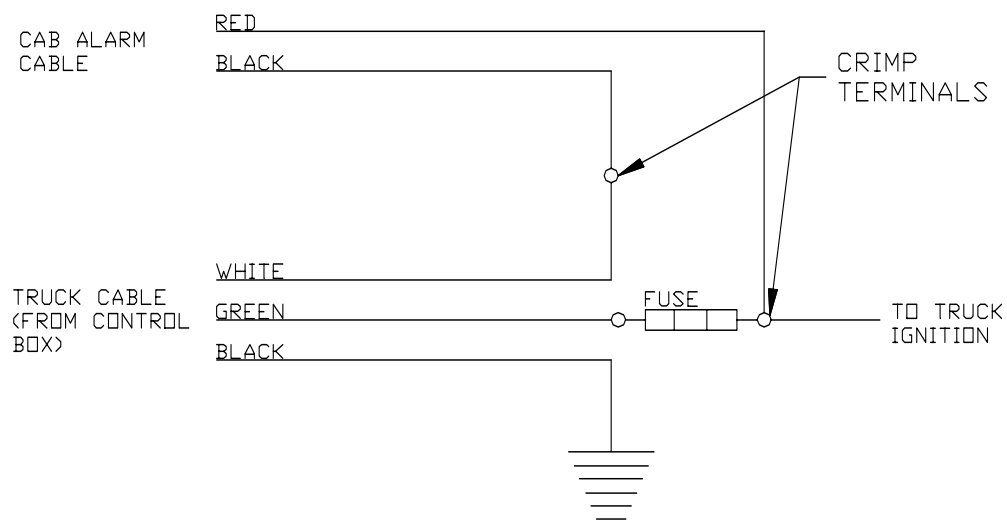

**Figure 15 – Power Cable and Cab Alarm Wiring**
3. Wire the power cable to the truck (see Figure 15). The fused power (green) wire should be wired to a switched 12V source. This ensures that power to the control box is on only when the ignition key of the truck is on.
2. Wire the cab alarm cable to the power cable as shown in Figure 15.